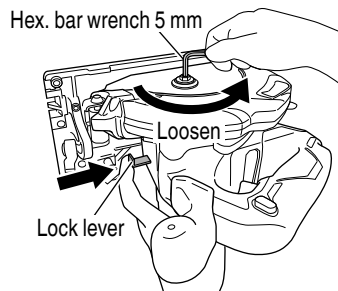

Fig. 9
- (1) Set the cutting volume at maximum, and place the Circular Saw as shown in Fig. 9.